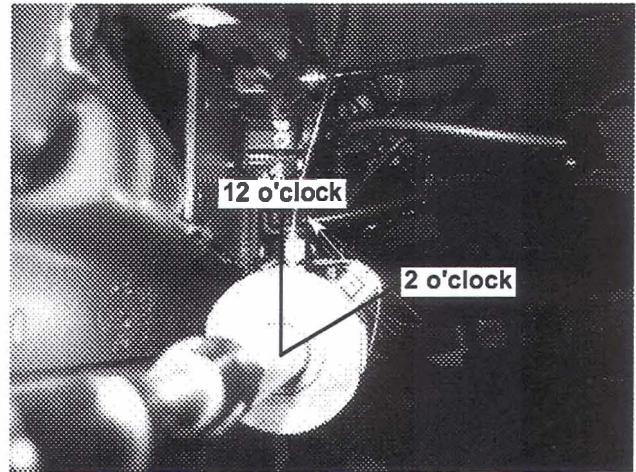

**Figure 5**
5. Remove and discard the band clamp, old entrance door position switch, and plastic housing. **Figure 5**